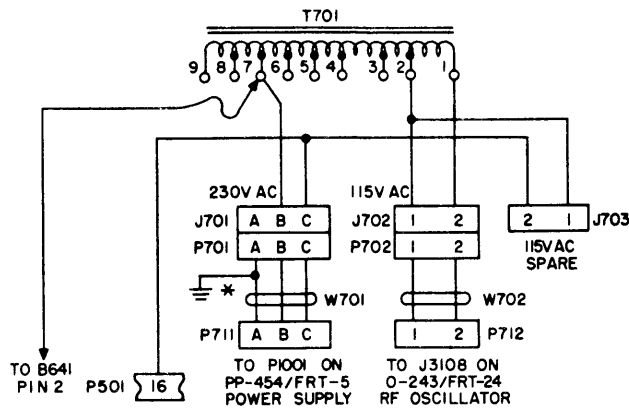

Figure 2-28. Service Power Supply, Simplified Schematic
(8) SERVICE POWER SUPPLY (see figure 2-28).—Although the Service Power Supply (shown in figure 1-10) is part of Radio Transmitter T-440/FRT-24, it is used for supplying 230 volts, ac, to Power Supply PP-454/FRT-5 and 115 volts, ac, to R-F Oscillator O-243/FRT-24. The primary input power (230 volts, ac) across terminals 1 and 2 of autotransformer T701 is supplied to polarized receptacle J701 and thence through cable assembly W701 to Power Supply PP-454/FRT-5. The stepped-down voltage (115 volts, ac) at terminals 1 and 2 is supplied to receptacle J701 and thence through Cable Assembly W702 to R-F Oscillator O-243/FRT-24. Receptacle J702 is used as a convenience outlet for supplying 115 volts, ac.
Lumped transmission lines L2001 and L2002, L2003 and L2004, and L2005 and L2006 are arranged so that their windings offer opposition to the flow of unbalanced currents (always in the same direction) and no opposition to the flow of balanced currents (always in opposite directions). Balance is obtained by the use of a coil Balun, L2011, to couple the matching unit to the unbalanced 52-ohm transmitter output jack (P2001). This Balun consists of a coaxial line wound as an inductance and connected as shown in the schematic in figure 2-28. As connected, the center conductor of the grounded half of this coil is not used, and the circuit operates as if it were comprised of two tank circuits balanced to ground. The unbalanced 52-ohm output, taken from Radio Transmitter T-440/FRT-24 through an RG-17/U coaxial cable and connector J107, is introduced to a 52-ohm balanced circuit, L2011, which converts this output to a balanced 52-ohm input. This input impedance is then stepped up in impedance by a device similar to the type discussed above. L2011 is made up of two sections of coiled r-f coaxial cable, which together with their distributed capacitances, act as two parallel resonant circuits equivalent to a center-tapped input over the entire operating range to maintain line balance. L2011 covers a 4:1 range in frequency; the use of capacitors C2001 through C2064 (64 capacitors in all) and coils L2009 and L2010 extends the low-frequency range and the over-all coverage to 15:1. An improvement in the standing-wave ratio is obtained by the use of tuned circuit C2065 and L2007, in series with the sections of artificial transmission line consisting of spiral windings L2002 and L2003; and by the use of tuned circuit C2006 and L2008, in series with the other sections of artificial transmission line consisting of spiral windings L2004 and L2005. Two loading coils (L2012 and L2013) are used to extend the frequency range of the coupler to 31.25 mc at the high-frequency end of the range, to prevent an